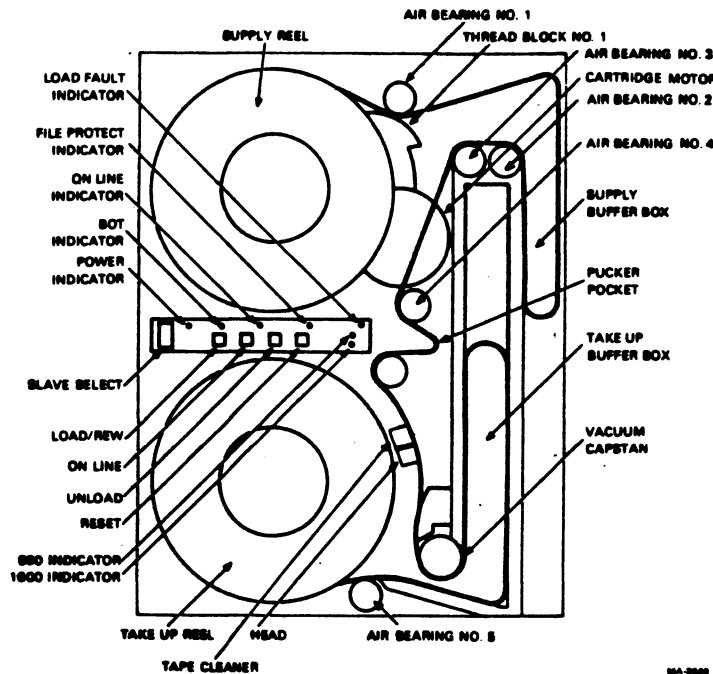
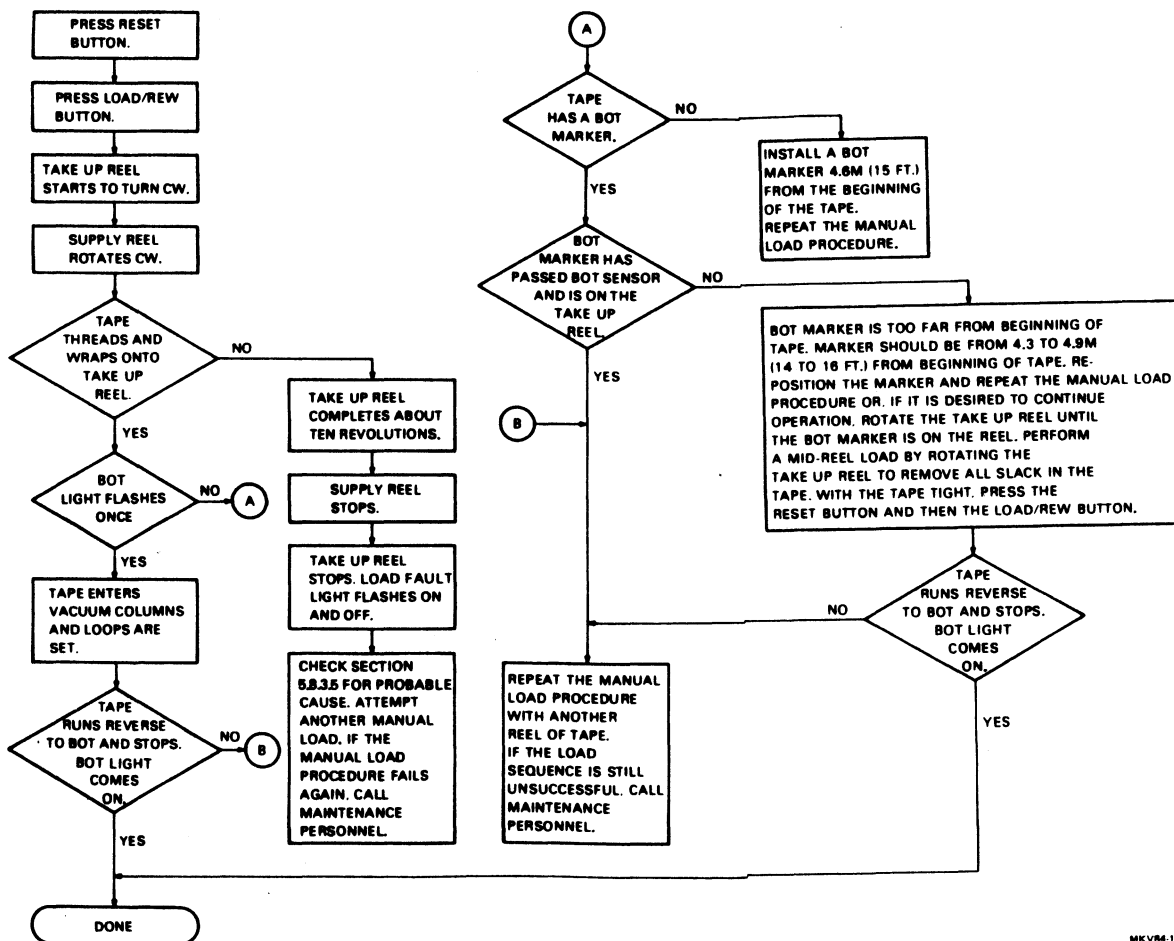

Figure 5-30 TU77 Tape Path and Controls
Figure 5-31 TU77 Manual Load Sequence
10. Follow the instructions and check for the events specified in Figure 5-28. If the tape fails to load properly, the figure contains some operator troubleshooting hints you can try before calling maintenance personnel. Refer to Figure 5-30 to identify tape path components.
4. Place the tape leader between thread block 1 and the air bearing (Figure 5-30).
8. Follow the instructions and check for the events specified in Figure 5-31. If the tape fails to load properly, the figure contains some operator troubleshooting hints that can be tried before maintenance personnel are called. Refer to Figure 5-30 to identify tape path components.